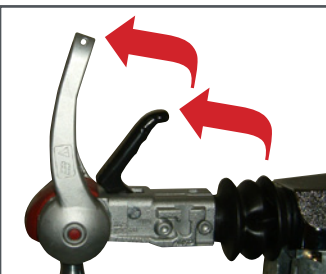

Fig 4 Handle removed, arms at 90°
- 2 With the 4x4 handle removed, push the stabiliser lever arms into the upright position and raise the coupling handle (Fig 4).
- 4 With the 4x4 handle removed push the stabiliser arms to 90° and uncouple from the towball as normal (Fig 4).